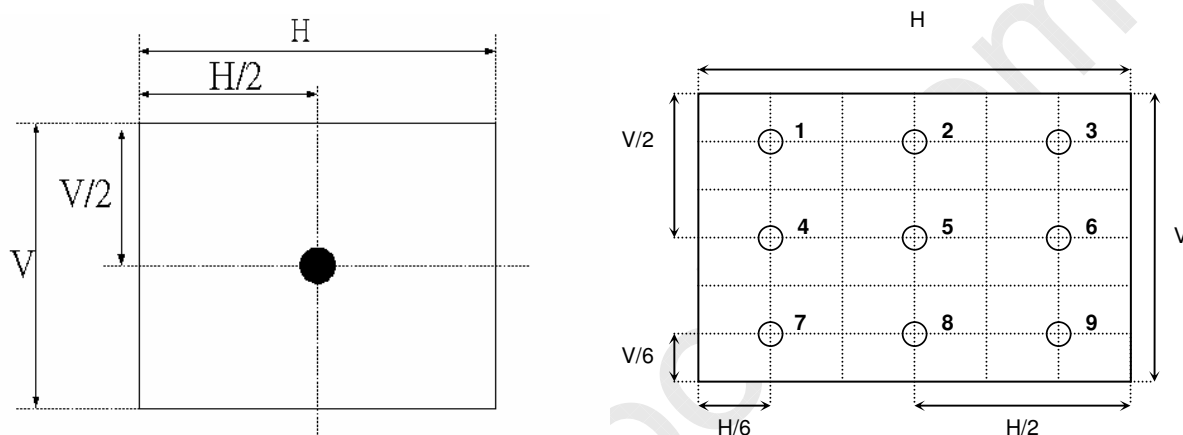

Fig.4-2 Optical measurement point
2. Surface Luminance is luminance value at point 5 across the LCD surface 50cm from the surface with all pixels displaying white. For more information see Fig. 4-2. When lamp current $I_L=6.0\text{mA}$, $L_{WH}=L_{on5}$, where L_{on5} is the luminance with all pixels displaying white at center 5 location.